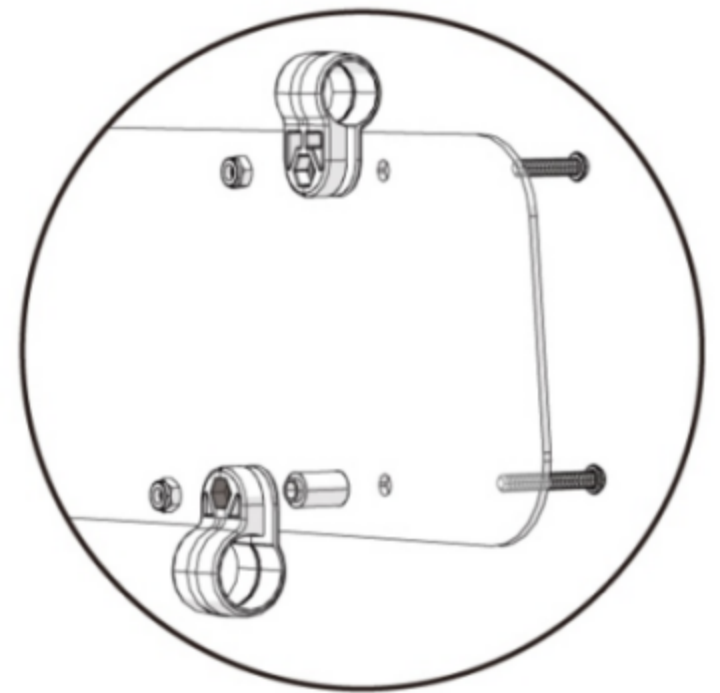

Figure 5
First snapping the 3 smaller top clips (12) and the 3 larger bottom clips (13) onto the front top and bottom tubes. Ensure that the holes for the nuts are facing the rack. Install the wind deflector to the clips using, on the top, three short bolts (14) and 3 nuts (8), and on the bottom, use 3 long bolts (15) and 3 nuts (8). Refer to **Figures 5 and 6.**